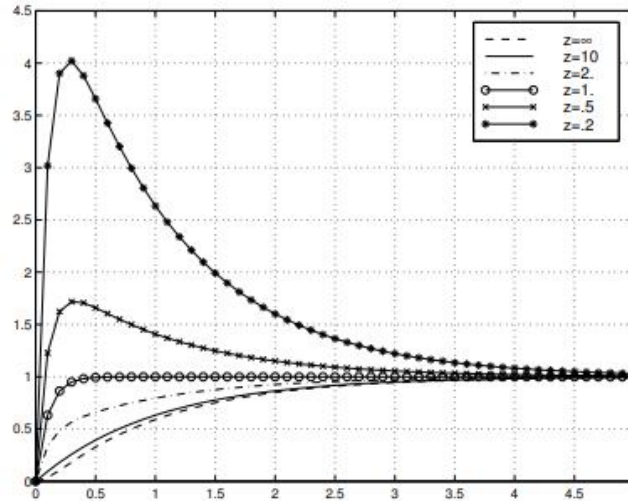

Figure 5: Step response of the dominantly first-order system with the additional zero at $s = -z$.
- In this case, the additional zero speeds up the system; see Figure 5. $z = 1$. This cancels the pole at $s = -1$. $z < 1$. The additional zero becomes dominant. It speeds up the system and at the same time leads to occurring an overshoot; see Figure 5.